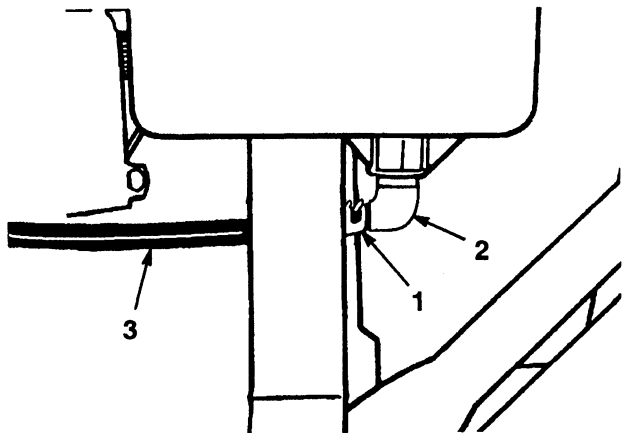

Figure 3
4. Remove red cap from end of fuel line and from end of elbow fitting on gas tank. Slide end of fuel line onto elbow fitting (Fig. 3). Secure fuel line in place with fuel line clamp.